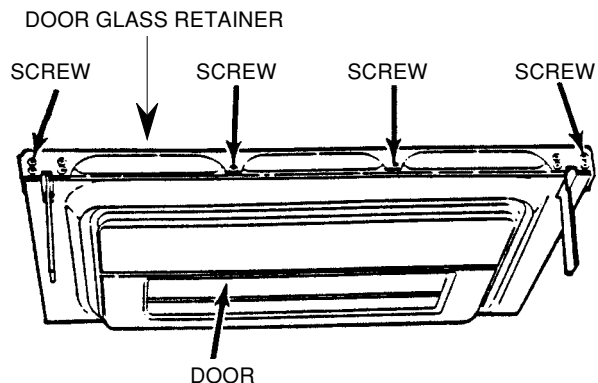

Figure 4-18
4. Position the door upside down so that it rests on the top of the handle assembly, (see Figure 4-18), and remove the four screws from the door glass retainer.